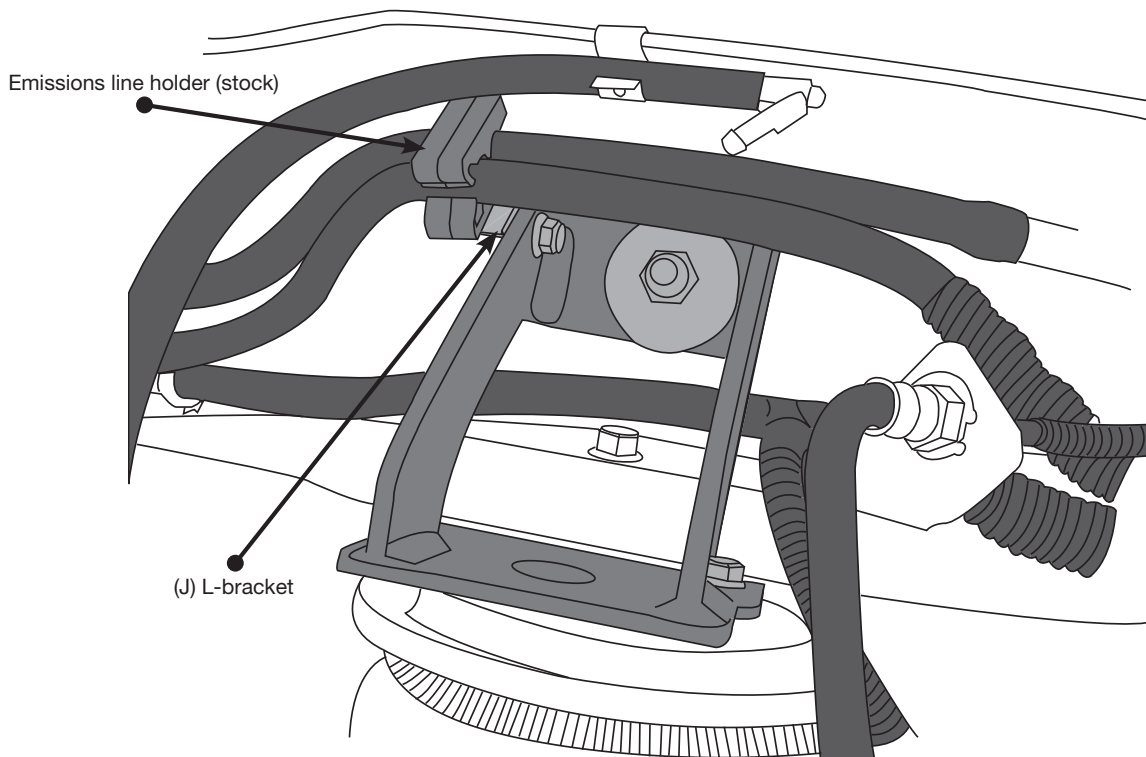

Fig. 8
6. Cap the brace/upper bracket carriage bolts (P) with a 3/8" flat washer (W) and 3/8" nylon lock nut (V) and tighten both securely on both sides.
7. With the spacers (F) on the upper brackets tight to the bottom of the frame and the braces tight to the upper bracket, tighten the 1/2 or 3/4" hardware previously installed, that hold the braces to the frame. Tighten both sides securely.
8. If so equipped with the emissions line previously loosened from the frame, insert the line holder post into the L-bracket (J) attached to the back leg of the upper left brace (B) (Fig. 8). It may be necessary to move the line holder post forward or back on the lines to line up correctly with the L-bracket hole. Reattach any line holders removed forward or behind the axle, if possible, that were removed to aid in positioning the upper bracket.